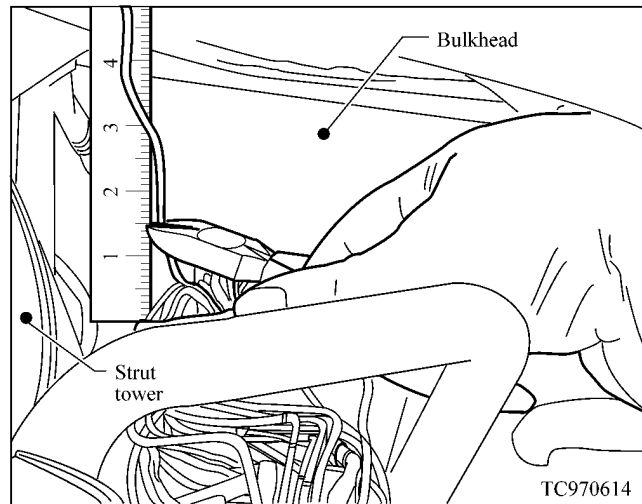

Figure 8
11. Cut the broken wire 1-1/2 inches up from the top of the zipper tube (see Figure 8).